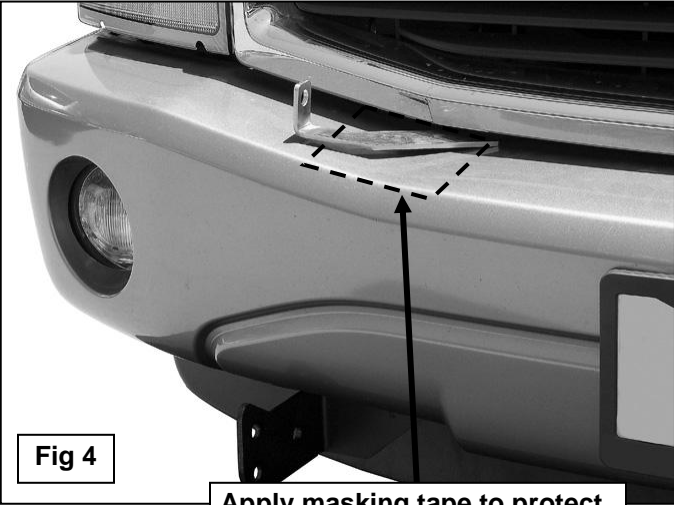

Fig 4
5. Before continuing, we highly recommend covering the top of the plastic bumper cover with removable tape, (masking tape for example), to protect the finish during Top Bracket installation, **(Figure 4)**.
6. Select the passenger side Top Bracket. Slide the Top Bracket through the gap between the bottom of the grille and the front bumper, **(Figure 4)**. Line up the mounting hole with the previously installed Top Support Bracket. Bolt the Top Bracket to the Support Bracket with (1) 10mm x 25mm Hex Bolt, (2) 10mm Flat Washers and (1) 10mm Nylon Lock Nut. Do not tighten hardware at this time. Repeat this Step to install the driver side Top Bracket.